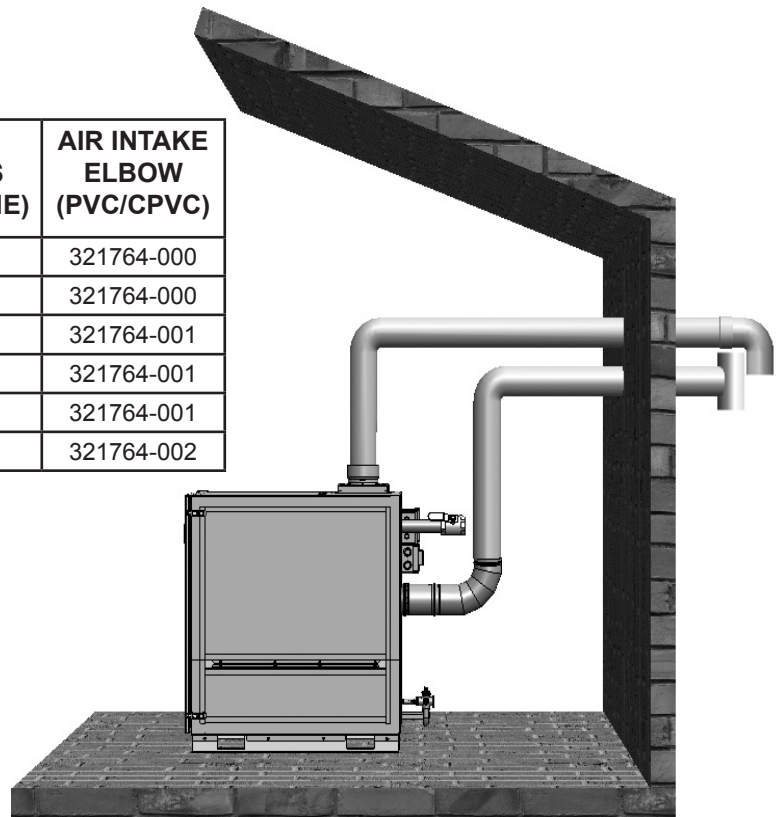

FIGURE 25. DIRECT VENT HORIZONTAL
3. **Horizontal Direct Vent** - using TWT to exhaust flue products and PVC piping to bring combustion air to the water heater from the outside. See Figure 25 on Page 29 and Figure 28 on Page 30.